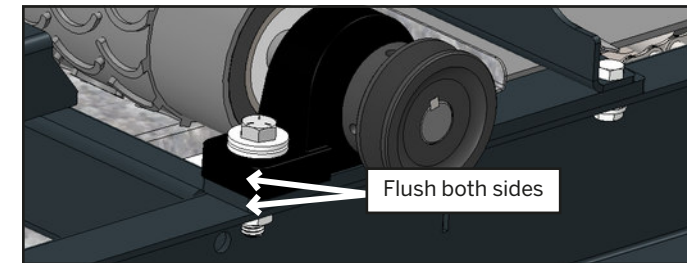

Figure 13.6.2
- Mount pillow block bearings at the edge of the welded support to ensure that the roller is square to the frame (Fig 13.6.2).